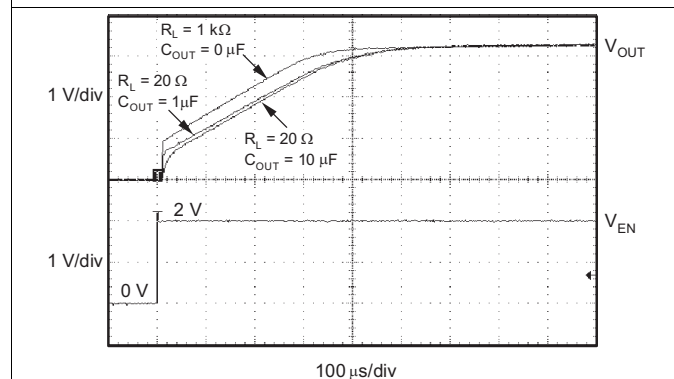

Figure 21. TPS73233 Turnon Response
The enable pin (EN) is active high and is compatible with standard TTL-CMOS levels. A V_{EN} below 0.5 V (maximum) turns the regulator off and drops the GND pin current to approximately 10 nA. When EN is used to shut down the regulator, all charge is removed from the pass transistor gate, and the output ramps back up to a regulated V_{OUT} (see Figure 21).